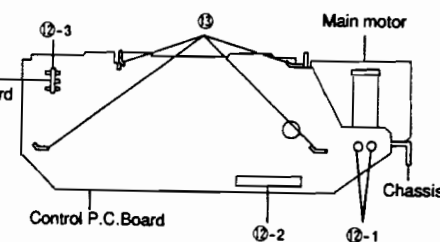

Figure 10
② ベルトを取り外した時、シャーシーを裏側にしないこと。
(1) After removing the belt, remove solder ⑫-1, and remove the wire flat (2P) from the control P.C.Board as shown in Figure 10.
② Since the wire flat is very easily damaged, handle it with care.
③ Fasten the two screws with a fastening torque of 2kg.cm.
(1) ベルトを外した後、半田⑫-1を外し、ワイヤーフラット(2P)をコントロール基板より外します。(図10参照)
- (1) Remove four solders ⑫ and remove the head P.C.Board and the two wire flat as shown in Figure 10.
- (2) Remove four claws ⑬ and remove the P.C.Board as shown in Figure 10.
- (3) After replacing the old P.C.Board with a new one, mount it following the removal steps in the reverse order.
- ② When using the soldering iron, set the temperature of the soldering iron to $320^{\circ} \pm 30^{\circ}\text{C}$ and the soldering time to less than 3 seconds, but solder point ⑫-3 to less than 1 second.
- ③ Take care that the solder is not loose, that there is no shortcircuit and that the coating is not damage.
- (1) 4ヶ所の半田⑫を外し、ヘッド基板と2本のワイヤーフラット (2P)、(10P) をそれぞれ外します。(図10参照)
- (2) 4ヶ所のツメ⑬を外し、コントロール基板を外します。(図10参照)
- (3) 良品のコントロール基板と交換後、取り外し方の逆の手順で基板を取り付けます。